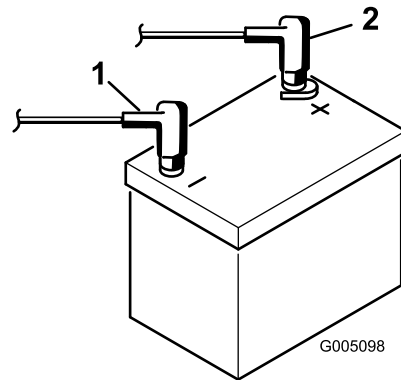

Figure 8
9. Install the positive cable (red) to the positive (+) terminal and then the negative cable (black) to the negative (-) terminal of the battery and secure them with the bolts and nuts (Figure 8). Slide the rubber boot over the positive terminal to prevent a possible short from occurring.